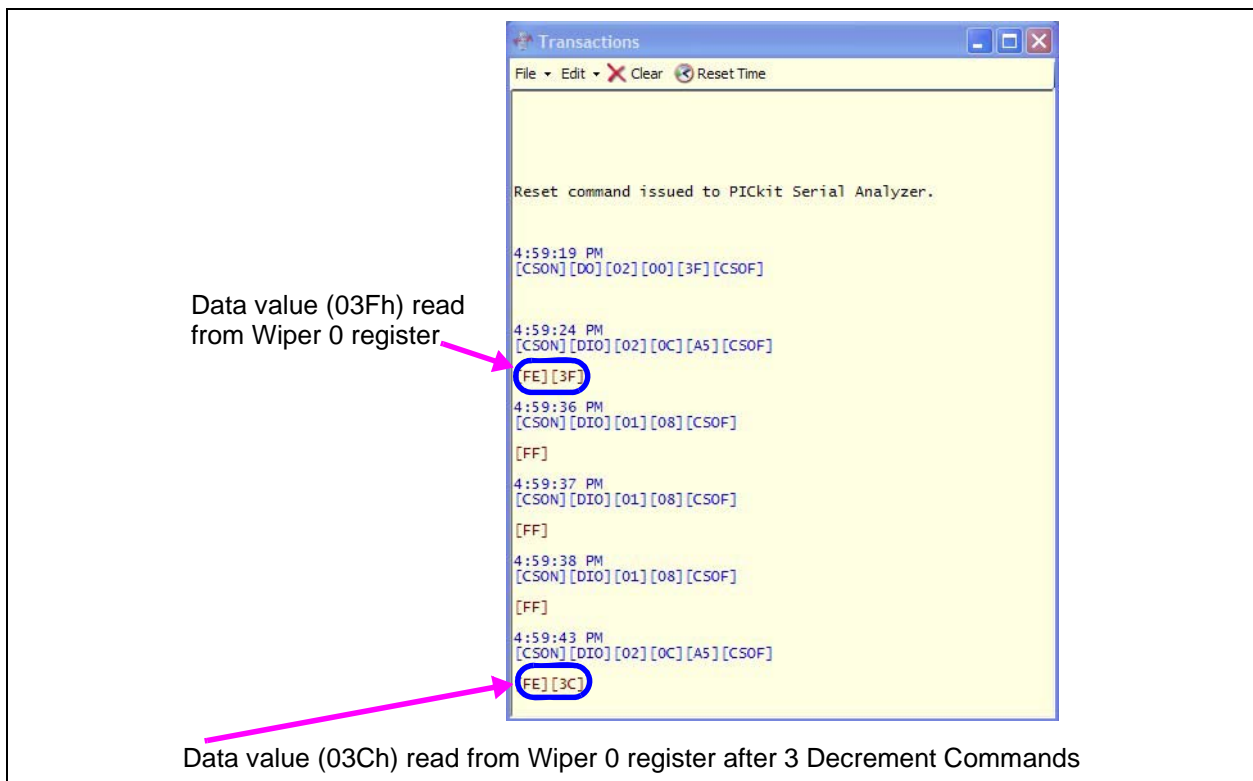

FIGURE 2-16: MCP4361 Transaction Window - Wiper 0 Decrements.
26. Select the “ReadWiper0” script in the User SPI Scripts column and then click on the **Execute Script** button. The Transaction window shows the scripts that were executed and the current value of the Wiper 0 (see Figure 2-16).